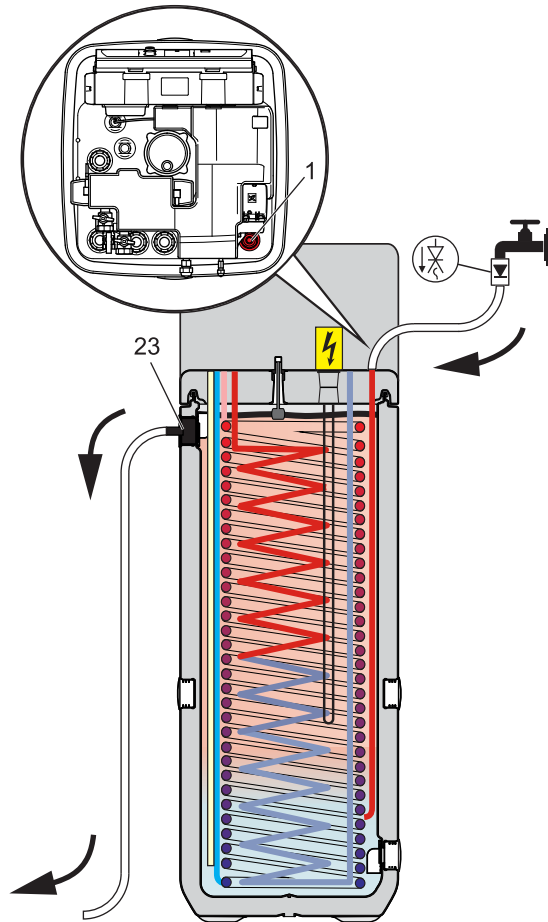

Fig. 6-2 Buffer storage filling - without solar system
- Connect the **filling hose** with backflush prevention (1/2") to the connection **"DrainBack Solar - feed"** (see fig. 6-2, item 1).
- **Fill** the storage tank on the Daikin Altherma EHS(X/H) **until water comes out of the connection** (fig. 6-2, item 23), that has **been connected as the safety overflow**.